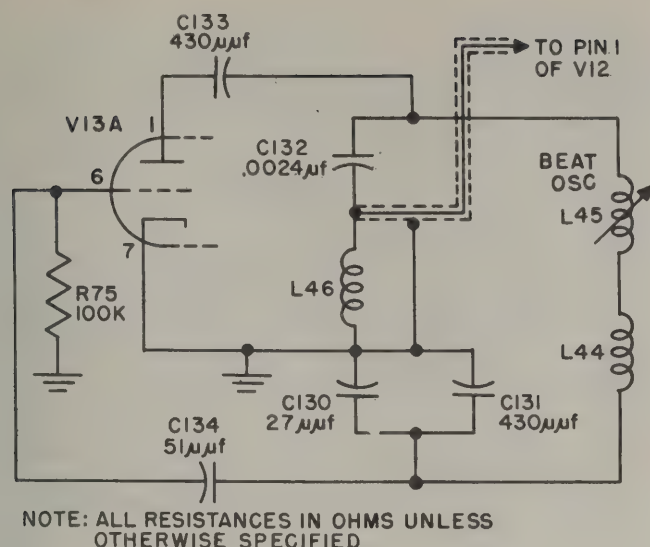

Figure 2-12. Radio Receiver R-450/FRR-28,
(16) BEAT FREQUENCY OSCILLATOR V13A. (See figure 2-12.)—When AVC switch S4 is in either of the INT BFO positions, tube V13B is inoperative due to the high negative bias applied to the grid through resistors R124 and R127. The oscillator tuned circuit between grid and cathode consists of capacitors C130, C131, and C132 and inductors L44, L45, L46. Feedback from the plate is provided through coupling capacitor C133. Grid coupling capacitor C134 couples the grid to the oscillator circuit. The cathode coupling is effected through ground. The signal output is tapped between capacitor C132 and inductor L46 which serve as a voltage divider to reduce the load effects on the oscillator. Inductor L46 also provides a dc path to ground for the grid of tube V12. Bias for tube V13A is provided by grid leak resistor R75. Plate voltage for both sections of tube V13 is filtered by resistor R77 and capacitor C136, and fed through load resistor R76 and switch S7 when in the CW position.
(17) EXTERNAL BFO AMPLIFIER V13B.—When switch S14 is in either of the EXT BFO positions, the bias for tube V13B is applied at normal operating level through voltage divider R127, R125, R126 and isolating resistor R124, and the bias obtained from the power supply through resistor R127 for tube V13A drives it beyond cut-off. An external BFO signal is applied to the grid of tube V13B through EXT BFO jack J8 and coupling capacitor C171. Resistor R123 is used to match the impedance of the coaxial line feeding the BFO signal into the receiver. The amplified external BFO signal in the plate circuit is directly coupled to the plate of tube V13A.
(18) BFO BUFFER V12.—The BFO signal from either section of tube V13 is fed to the grid of BFO buffer stage V12 through a divider network, consisting of capacitor C132 and inductor L46 and through a shielded lead which prevents the BFO signal from radiating and effecting the IF signal. A variable bias and degenerative feedback voltage is provided by BFO INJECTION potentiometer R74. Screen grid voltage is fed through voltage dropping resistor R100 and filtered by bypass capacitor C135. The plate of the BFO buffer tube V12 is coupled directly to the plate of the driver tube V11, so that both the BFO signal and the IF signal are applied to the second detector tube V14A.
(19) METER M1.—The meter M1 is used as an indicator of relative RF and AF signal strength. When METER switch S11 is in the RF position, the meter is connected across part of voltage divider R65, R69, and R102 which, along with R62, R63, and R64, form the second detector tube V14A plate load. The METER ADJ RF potentiometer R69 is used to set the meter to